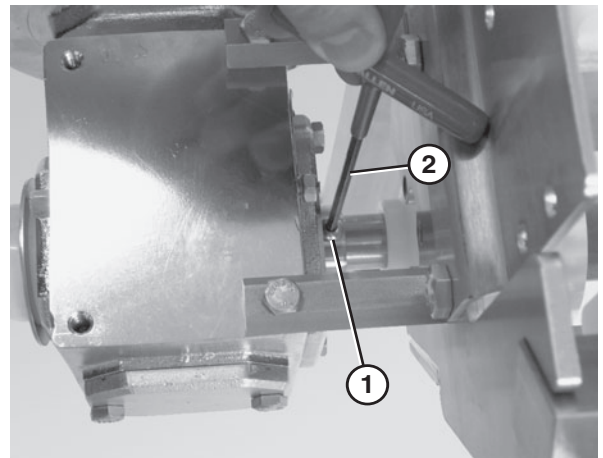

Figure 55
1. Loosen the fasteners (**Figure 55, item 1**) that connect the gearmotor to the drive spindle using a hex wrench (**Figure 55, item 2**).